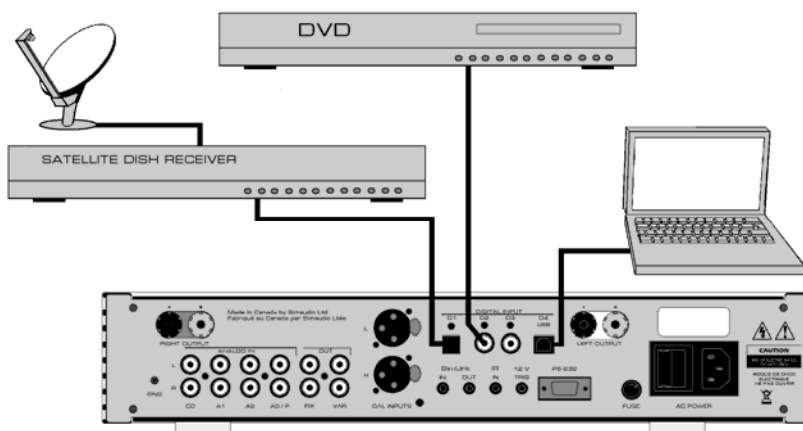

Figure 2: MOON 340i Optional Digital Inputs – connection examples
There are two (2) different settings available for setting the resistive load; 100Ω and 47kΩ which are represented by jumper sockets R9 for the left channel and jumper socket R24 for the right channel (refer to figure 2 – section labeled "LOADING"). The factory default setting is 47kΩ, therefore both jumpers will be found in each of the two left most sockets.
There are two (2) different settings available for the capacitive load; 0pF and 100pF which are represented by jumper sockets C9 for the left channel and jumper sockets C17 for the right channel (refer to figure 2 – section labeled "LOADING"). The factory default setting is 100pF for a moving magnet cartridge, therefore both jumpers will be found in each of the two right most sockets.
There are two (2) different settings available for gain level. They are 40dB for MM cartridges and 60dB for MC cartridges, which are represented by jumper socket J17 for the left channel and jumper socket J22 for the right channel (refer to figure 2 – section labeled "GAIN"). The factory default setting is for a MM cartridge, therefore both jumpers will be found in each of the two right most sockets labeled MM; ***It is highly recommended that you do not use the jumpers labeled MC for an MM cartridge as this will overload the preamplifier.*** In the event that you're using a MC cartridge, you should insert the supplied jumpers into each of the two left-most sockets labeled MC.
The rear panel will look similar to Figure 2 (above). There are four (4) pairs of single-ended analog inputs on RCA connectors labeled CD, A1, A2 and A3/P. The left channel inputs are located on top and the corresponding right channel inputs are located directly below. In the event that your **MOON 340i** is equipped with the aforementioned optional phono section, the input labeled 'A3/P' must be used to connect your turntable interconnect leads to this integrated amplifier. If you don't have the optional phono section installed, then this input can be used in the same way as CD, A1 and A2 inputs.